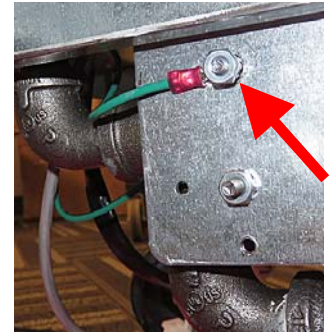

Figure 77
75. Attach green ground wire from solenoid to the underside of the assembly (see Figure 77).